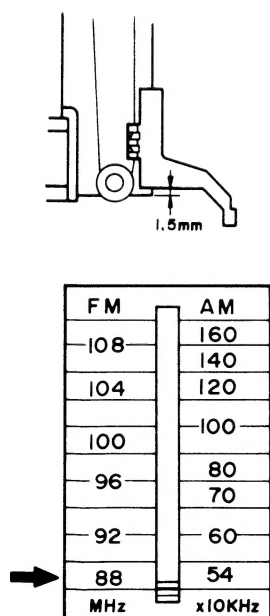

Figure 3-3
2. Turn the tuning control shaft fully clockwise, and fix it with the pointer aligned with about 1.5 mm distance from the bottom of the pointer rod. Furthermore, after fitting the front cabinet, make sure that the pointer is situated at FM: 88 MHz (See Figure 3-3.)